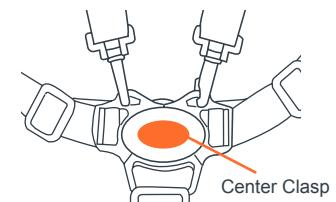

Fig. 14a
- 14) • To release, push Button on Center Clasp, the two Harness Buckles will pop free (Fig. 14a).